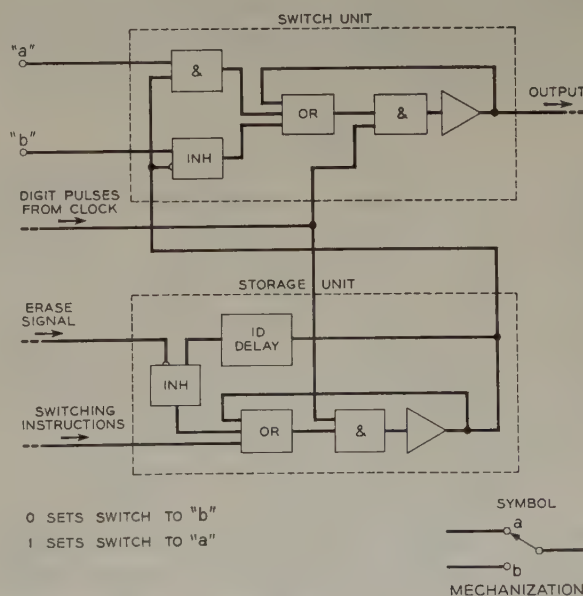

Figure 6. Block diagram of a simple switch
A single-pole double-throw switch as shown in Figure 6 consists of a storage cell and a switch unit. When a "one" is stored in the storage unit, as the result of a pulse on the switching instruction lead, the left-hand and-circuit of the switch unit will pass signal a while the inhibitor blocks signal b . When a zero is stored, the and-circuit will block signal a and the inhibitor-circuit in the switch unit will pass signal b .
the one shown in Figure 6. S_0 is operated by the coefficient of 2^0 , S_1 by the coefficient of 2^1 , and S_2 by the coefficient of 2^2 . As the figure is drawn, only the and-circuit on line 7 (111) is energized. A pulse will be received at the output whenever a pulse is put on line 7. Pulses can be put on any of the other lines without getting to the output, because every other line is held negative by at least one lead from S_0 , S_1 , or S_2 . If an erase signal were sent to the three storage cells of S_0 , S_1 , and S_2 , the number 111 would be erased, leaving 000, and the switches would be free to move to new positions and select another one of the eight inputs.